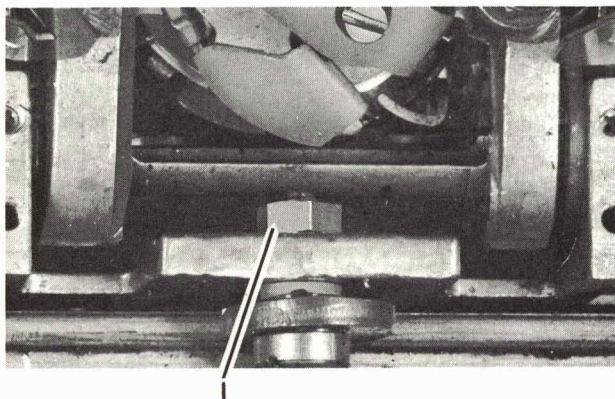

FIGURE 51. Carrier Shoe Removal
4. Remove the nut from the carrier-shoe stud and remove the shoe (#1, Figure 51).